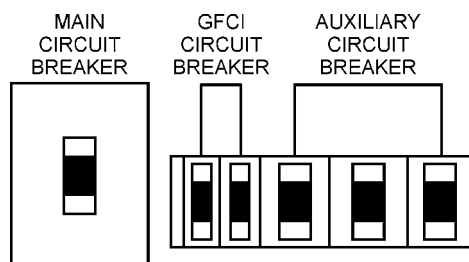

Figure 35. Main, Aux. and GFCI Circuit Breakers (OFF)
1. Place the **main, G.F.C.I., and aux.** circuit breakers (Figure 35) in the **OFF** position prior to starting the engine.